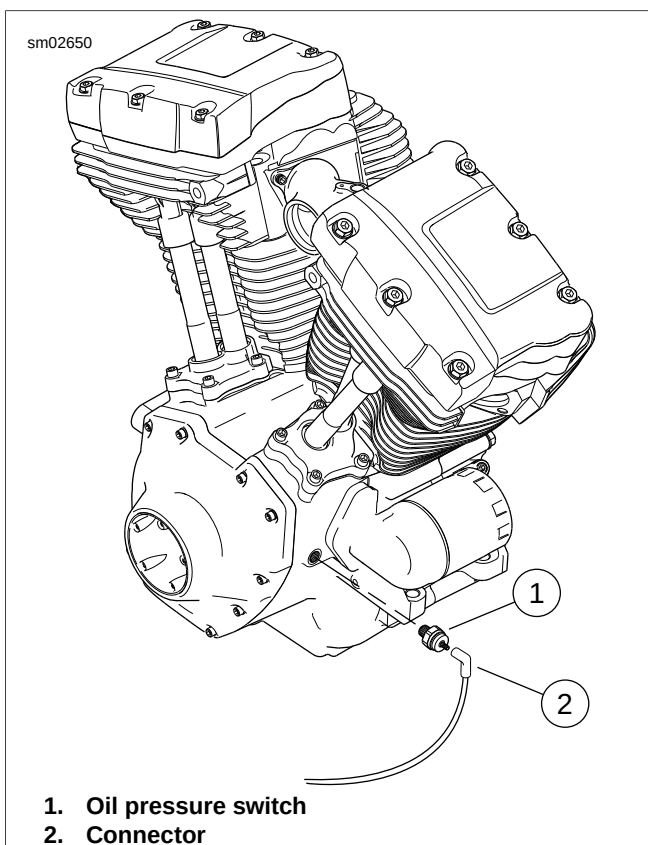

Figure 7-68. Oil Pressure Switch
See Figure 7-68. The oil pressure switch is located on the right side of the crankcase.
1. See Figure 7-68. Remove connector (2) from oil pressure switch (1).
2. See Figure 7-68. Install oil pressure switch (1) to crankcase. Tighten switch to 96-144 **in-lbs** (10.8-16.3 Nm).
3. Attach connector (2) to oil pressure switch.